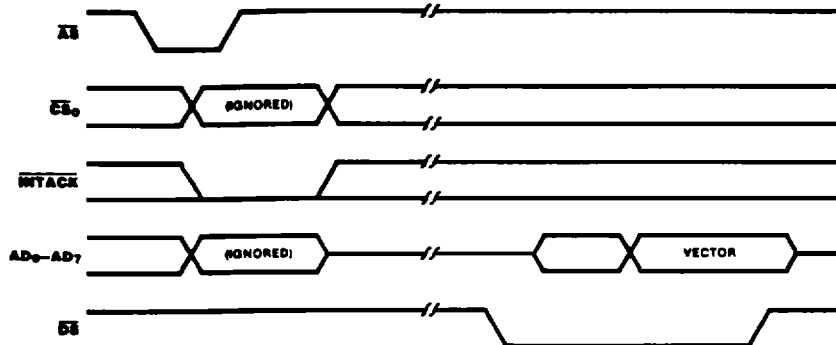

Figure 17. Interrupt Acknowledge Cycle Timing
**Interrupt Acknowledge Cycle Timing.** Figure 17 illustrates Interrupt Acknowledge cycle timing. The address on  $AD_0-AD_7$  and the state of  $CS_0$  and  $\overline{INTACK}$  are latched by the rising edge of  $\overline{AS}$ . However, if  $\overline{INTACK}$  is Low, the address and  $CS_0$  are ignored. The state of the R/W and  $CS_1$  are ignored for the duration of the Interrupt Acknowledge cycle. Between the rising edge of  $\overline{AS}$  and the falling